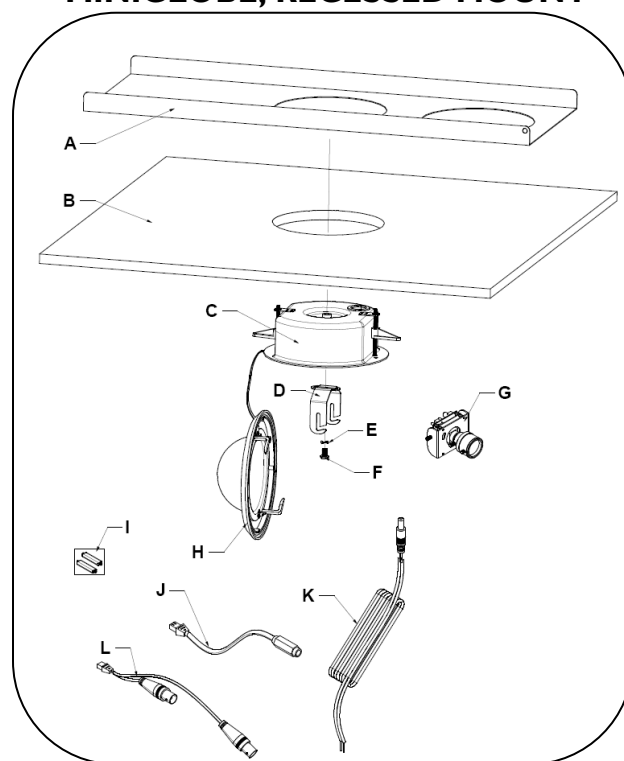

FIGURE 1
COMPONENT LIST [Figure 1]
1. Carefully unpack box and verify that all components listed are included. [FIGURE 1]